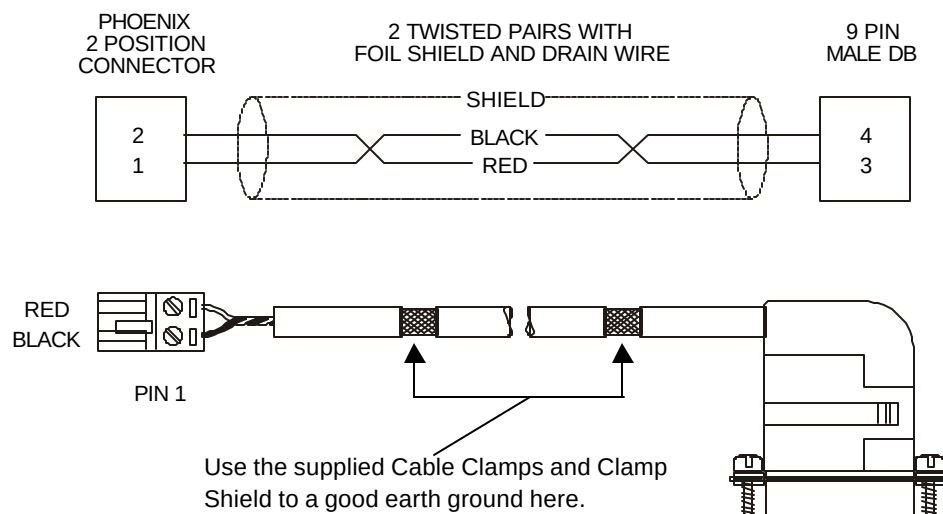

Figure 2.8 – Power Cable (Provided with HE697FBX105 and 100 Modules)
- a. Power Cable (9-Pin) 500A0015 (See Figure 2.8.)